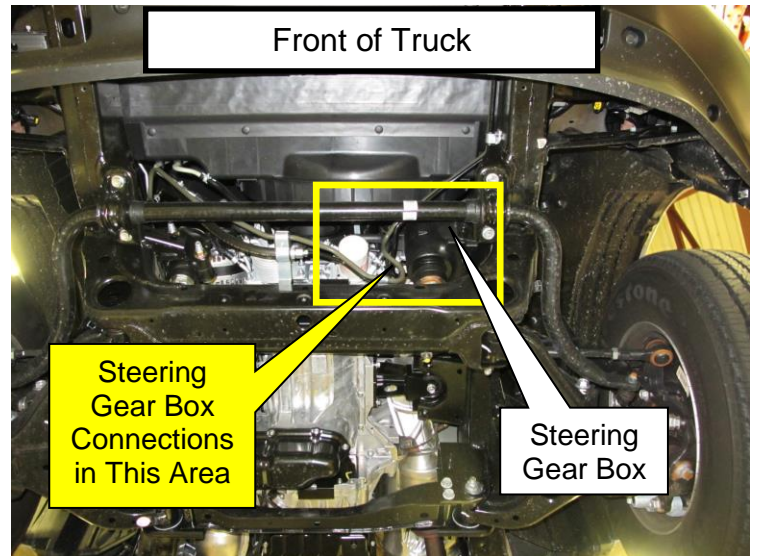

Figure 1
1. Locate the power steering box connections for the Power Steering Hose Assembly (Pressure) and Power Steering Hose Assembly (Return). (Figure 1, 2, 3).